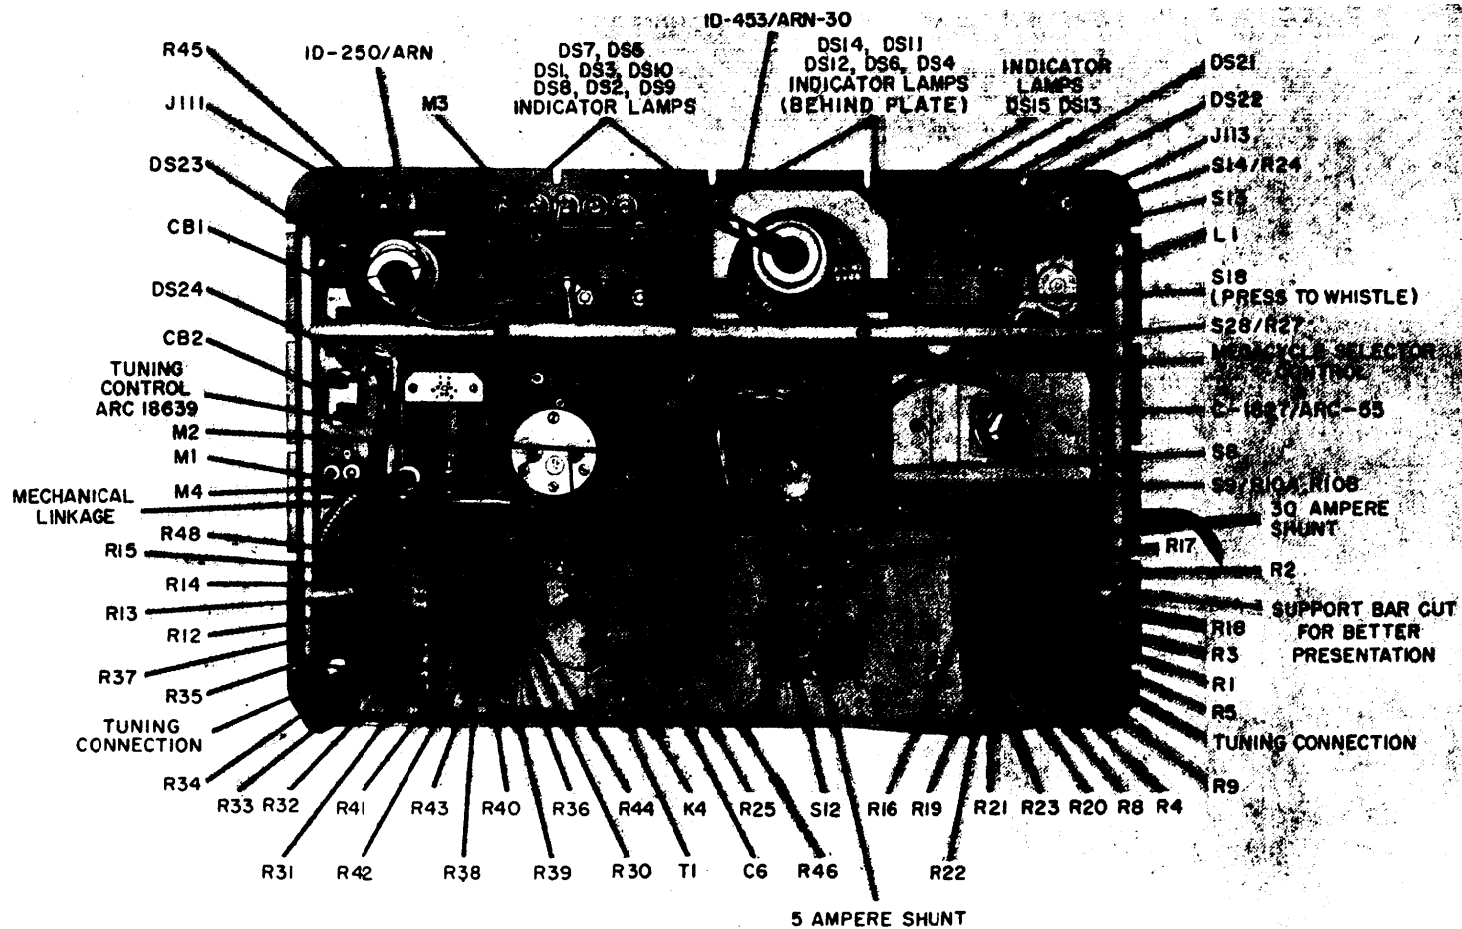

Figure 5. Test set front panel, rear view, parts locations.
urements to isolate the trouble to a particular part. Parts locations are indicated in figures 5 and 6.
- (1) Remove the test set rear cover from the case by releasing the four rear cover hasps.
- (2) Disconnect the electrical leads and fuse F1 holder from the terminals on the rear of multimeter M3 (fig. 5).
- (5) Adjust the pointer for 0 scale reading with the zero-adjust screw located on the bezel.
- (6) At the rear of multimeter M3, connect the electrical leads to the terminals (fig. 5).
- (7) Replace the test set rear cover on the case and secure the four rear cover hasps.
- (3) Remove the six binding-head screws that secure the megacycle selector control to the test set front panel.
- (4) From the rear of the test set front panel, carefully remove the megacycle selector control (fig. 5).
- (1) From the rear of the test set front panel, replace the megacycle selector control (fig. 5).
- (2) Resolder the wires to the terminals on the rear of the megacycle selector control.
- (3) Replace the six binding-head screws that secure the megacycle selector control to the test set front panel.